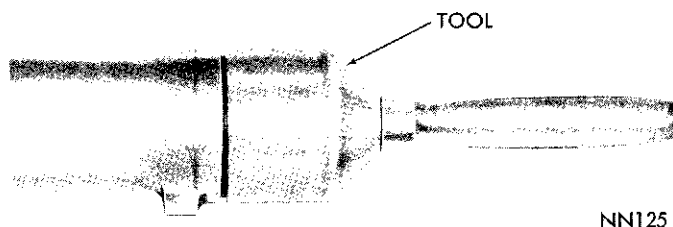

Fig. 36—Installing Extension Housing Seal
extension housing and drive it into housing with Tool C-3972 (Fig. 36).
(4) To install a new seal, position seal in opening of extension housing and drive it into housing with Tool C-3972 (Fig. 36).
(5) Carefully guide front universal joint yoke into extension housing and on mainshaft splines. Connect propeller shaft to rear axle pinion shaft yoke aligning the marks made at removal.
(6) Fill transmission to level of fill plug (Refer to Lubrication Section).